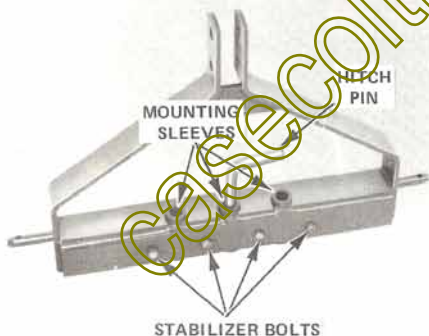

FIGURE 2
1. Four implement stabilizing bolts (Figure 2) are furnished with the sleeve adaptor for use at the four threaded holes, to eliminate the lateral pivot of mounted attachments if desired. A plow should not be stabilized at this point.
2. There are three mounting sleeves (Figure 2) on the sleeve adaptor to permit centering or offsetting implements. When mounting a plow, be careful to select the mounting position which will allow the share to cut cleanly to the edge of the previous furrow and to the inside of the right rear wheel.